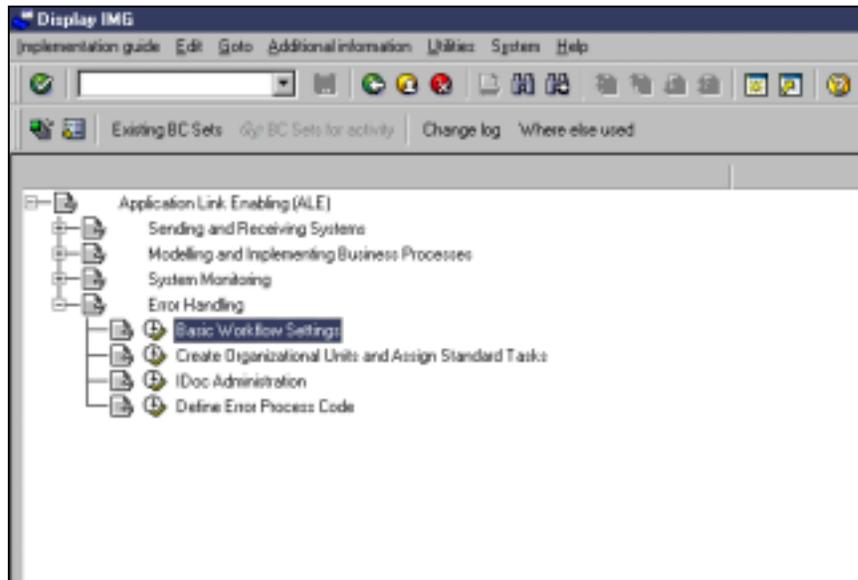

Figure 62: Selecting **Basic Workflow Settings**
1. Go to transaction ALE and select **Error Handling > Basic Workflow Settings**, as shown in Figure 62.